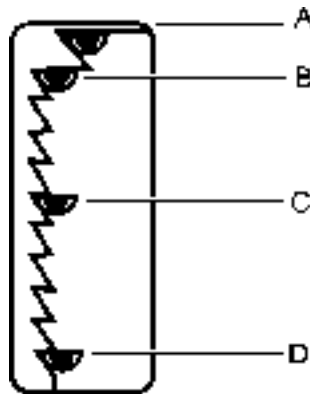

Fig. 4.16. Engine Speed and Shut Down Control Lever Position
2. Place transmission shift levers (8) in neutral.
3. Place the neutral lock lever (10) in vertical "ON" position.
4. Move the engine speed control lever (9) to low speed (idle) position (Fig. 4.16).
1. Perform all activities as described in item 1 to 3 and 5 to 6. Refer to NORMAL START.
2. Place the engine speed control lever in OFF position (Fig. 4.16).
3. Press engine start switch (6) on the instrument panel. Crank the engine until oil gauge (4) registers oil pressure or the low oil pressure warning light goes off. Depress the start switch.
4. Move the engine speed control lever to idle position (Fig.4.16).
5. Perform all activities as described in item 7 to 9. Refer to NORMAL START.
1. Place the engine speed and shut down control lever (4) in the high idle position (Fig. 4.16).
2. Depress the decelerator pedal (1) to decrease engine speed.
3. Move forward the neutral lock lever (3) from ON to OFF position.
4. Place transmission shift lever (5) in the desired range. Refer to "SHIFTING THE TRANSMISSION".
5. Gradually release brake and decelerator pedal (1).